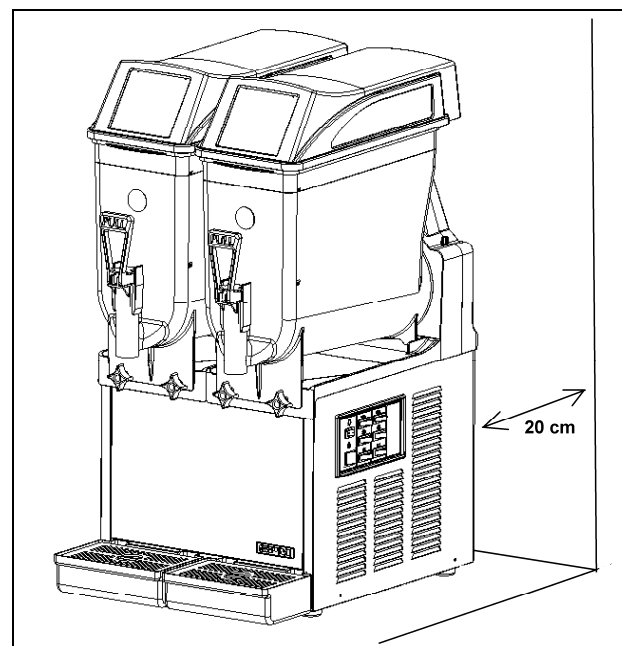

Fig. 2
- b) Rest the machine on a sturdy, flat surface making sure it is well ventilated by **leaving a gap of 20 cm all around it** and do not install it near heat sources (fig.2); **we recommend you to maintain a room temperature between 24 and 32°C.**